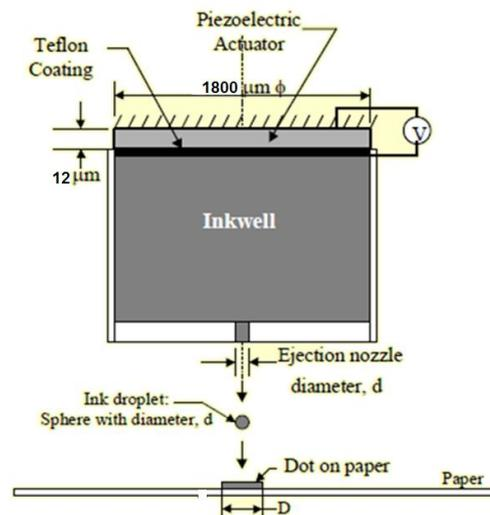

Fig. 5B Ink pumping mechanism in inkjet printer head
- 5B** Determine the required electric voltage for ejecting a droplet of ink from an inkjet printer head using PZT piezoelectric crystal as a pumping mechanism. The ejected ink will have a resolution of 250 dpi (dots per inch). The ink droplet is assumed to produce a dot with a film thickness of 750 nm on the paper. The geometry and dimension of the printer head is illustrated in Fig. 5B. Assume that the ink droplet takes a shape of a sphere and the inkwell is always re-filled after ejection. Piezoelectric coefficients of PZT is  $480 \times 10^{-12} \text{ m/V}$  **4** **CO3**